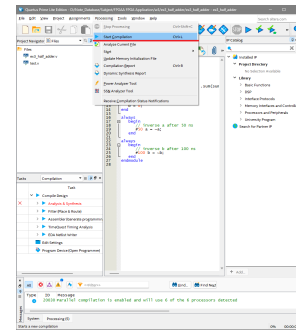

Figure 26: Click "Start Compilation"
17. Click "Start Compilation" in the "Processing" menu. (Figure 26)